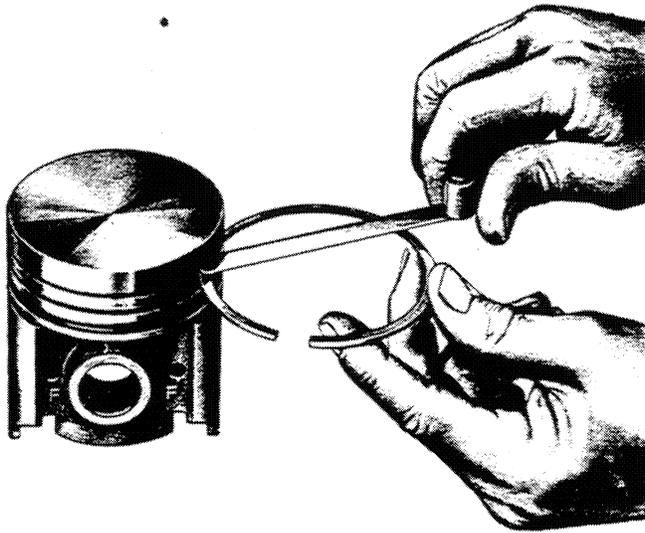

Figure 27
1. Inspect pistons for fractures at the ring lands, skirts and pin bosses. Check for wear at the ring lands by using new rings and a feeler gauge as shown in Figure 27. The rings should have the clearances shown in the ring set instructions which are packaged with the rings.